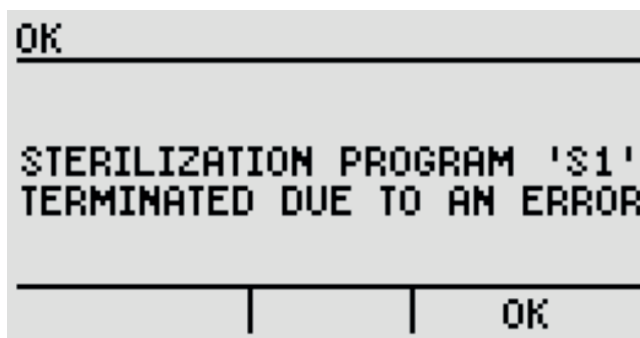

Fig. 27
- If the program runs incorrectly, the program is stopped and a message with the appropriate content is displayed (Fig. 27).